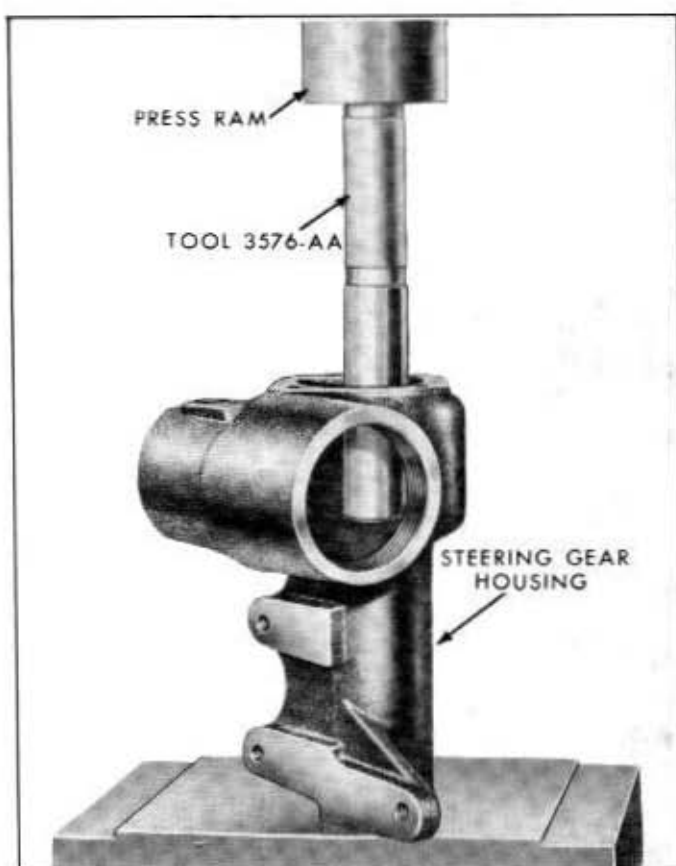

Fig. 5-11—Sector Shaft Bushing Installation—(60C-1208)
1. If the sector shaft bushings have been removed, press new bushings into the housing with Tool 3576-AA as shown in figure 5-11.